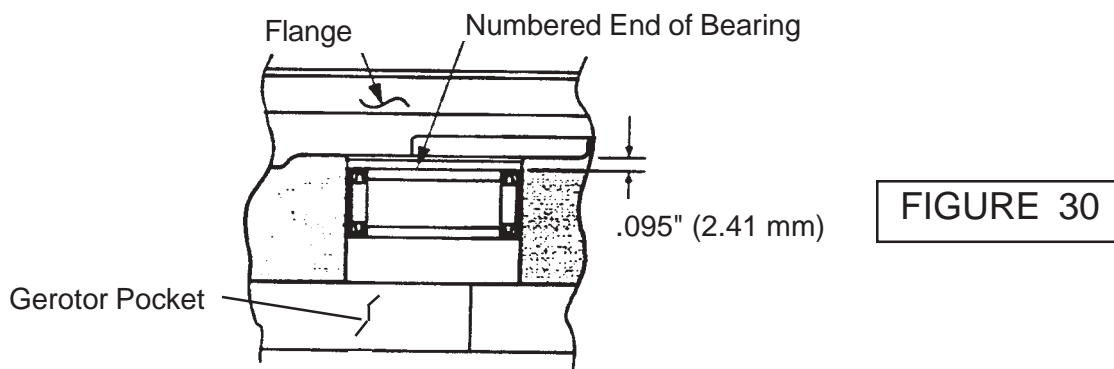

FIGURE 30
(See Figure 30 & 31)
1. **New Bearing or Bushing in Adapter Assembly.** If necessary Press New Bearing or Bushing into Adapter Assembly. The Bearing must be installed to dimensions as listed in Figure 30. The Numbered end **MUST** be installed Outward toward Flange as Shown in Figure 30